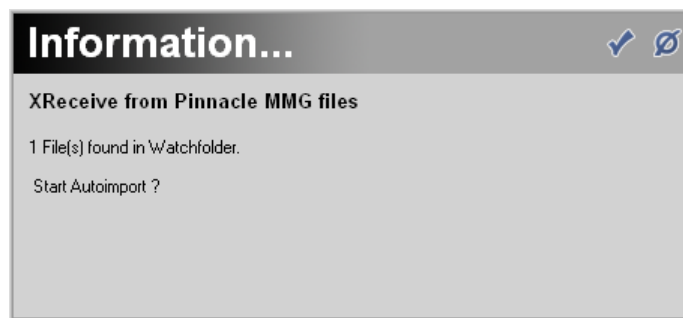

Figure 4-12: Auto import Information dialog
- The Auto import dialog appears (Figure 4-12). Click the check mark and the clip is imported.